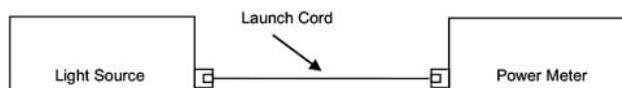

Figure 3. Set the reference
- a. Set a reference between the light source and power meter using the launch cord (see Figure 3).